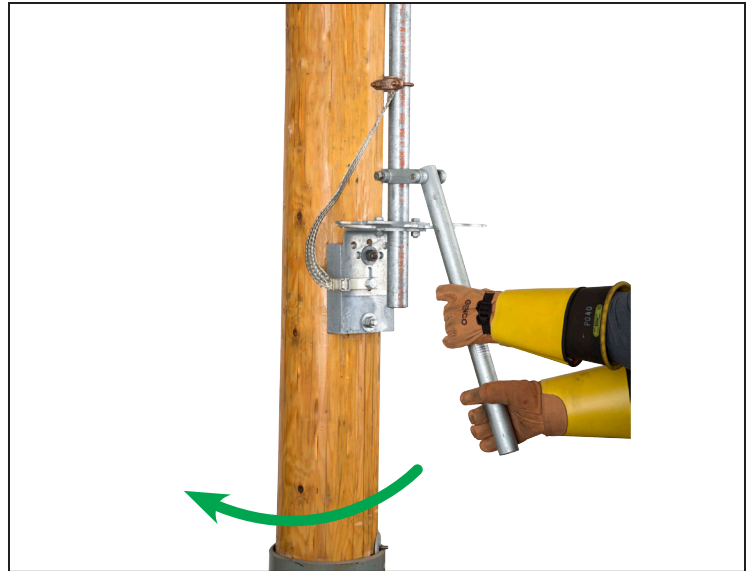

Figure 50. *Rapidly* swing the operating handle.
- (c) *Rapidly* swing the handle to the fully open or fully closed position. See Figure 50.